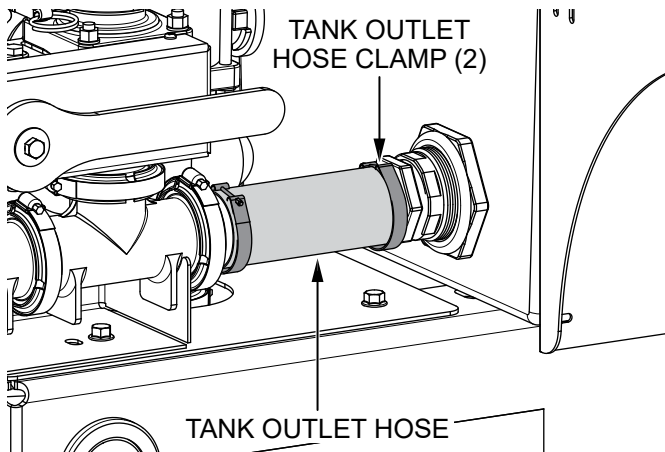

Figure 7. Remove Tank Outlet Hose
7. Loosen the **two tank outlet hose clamps** (Figure 7), then remove and discard the **tank outlet hose** and both clamps.